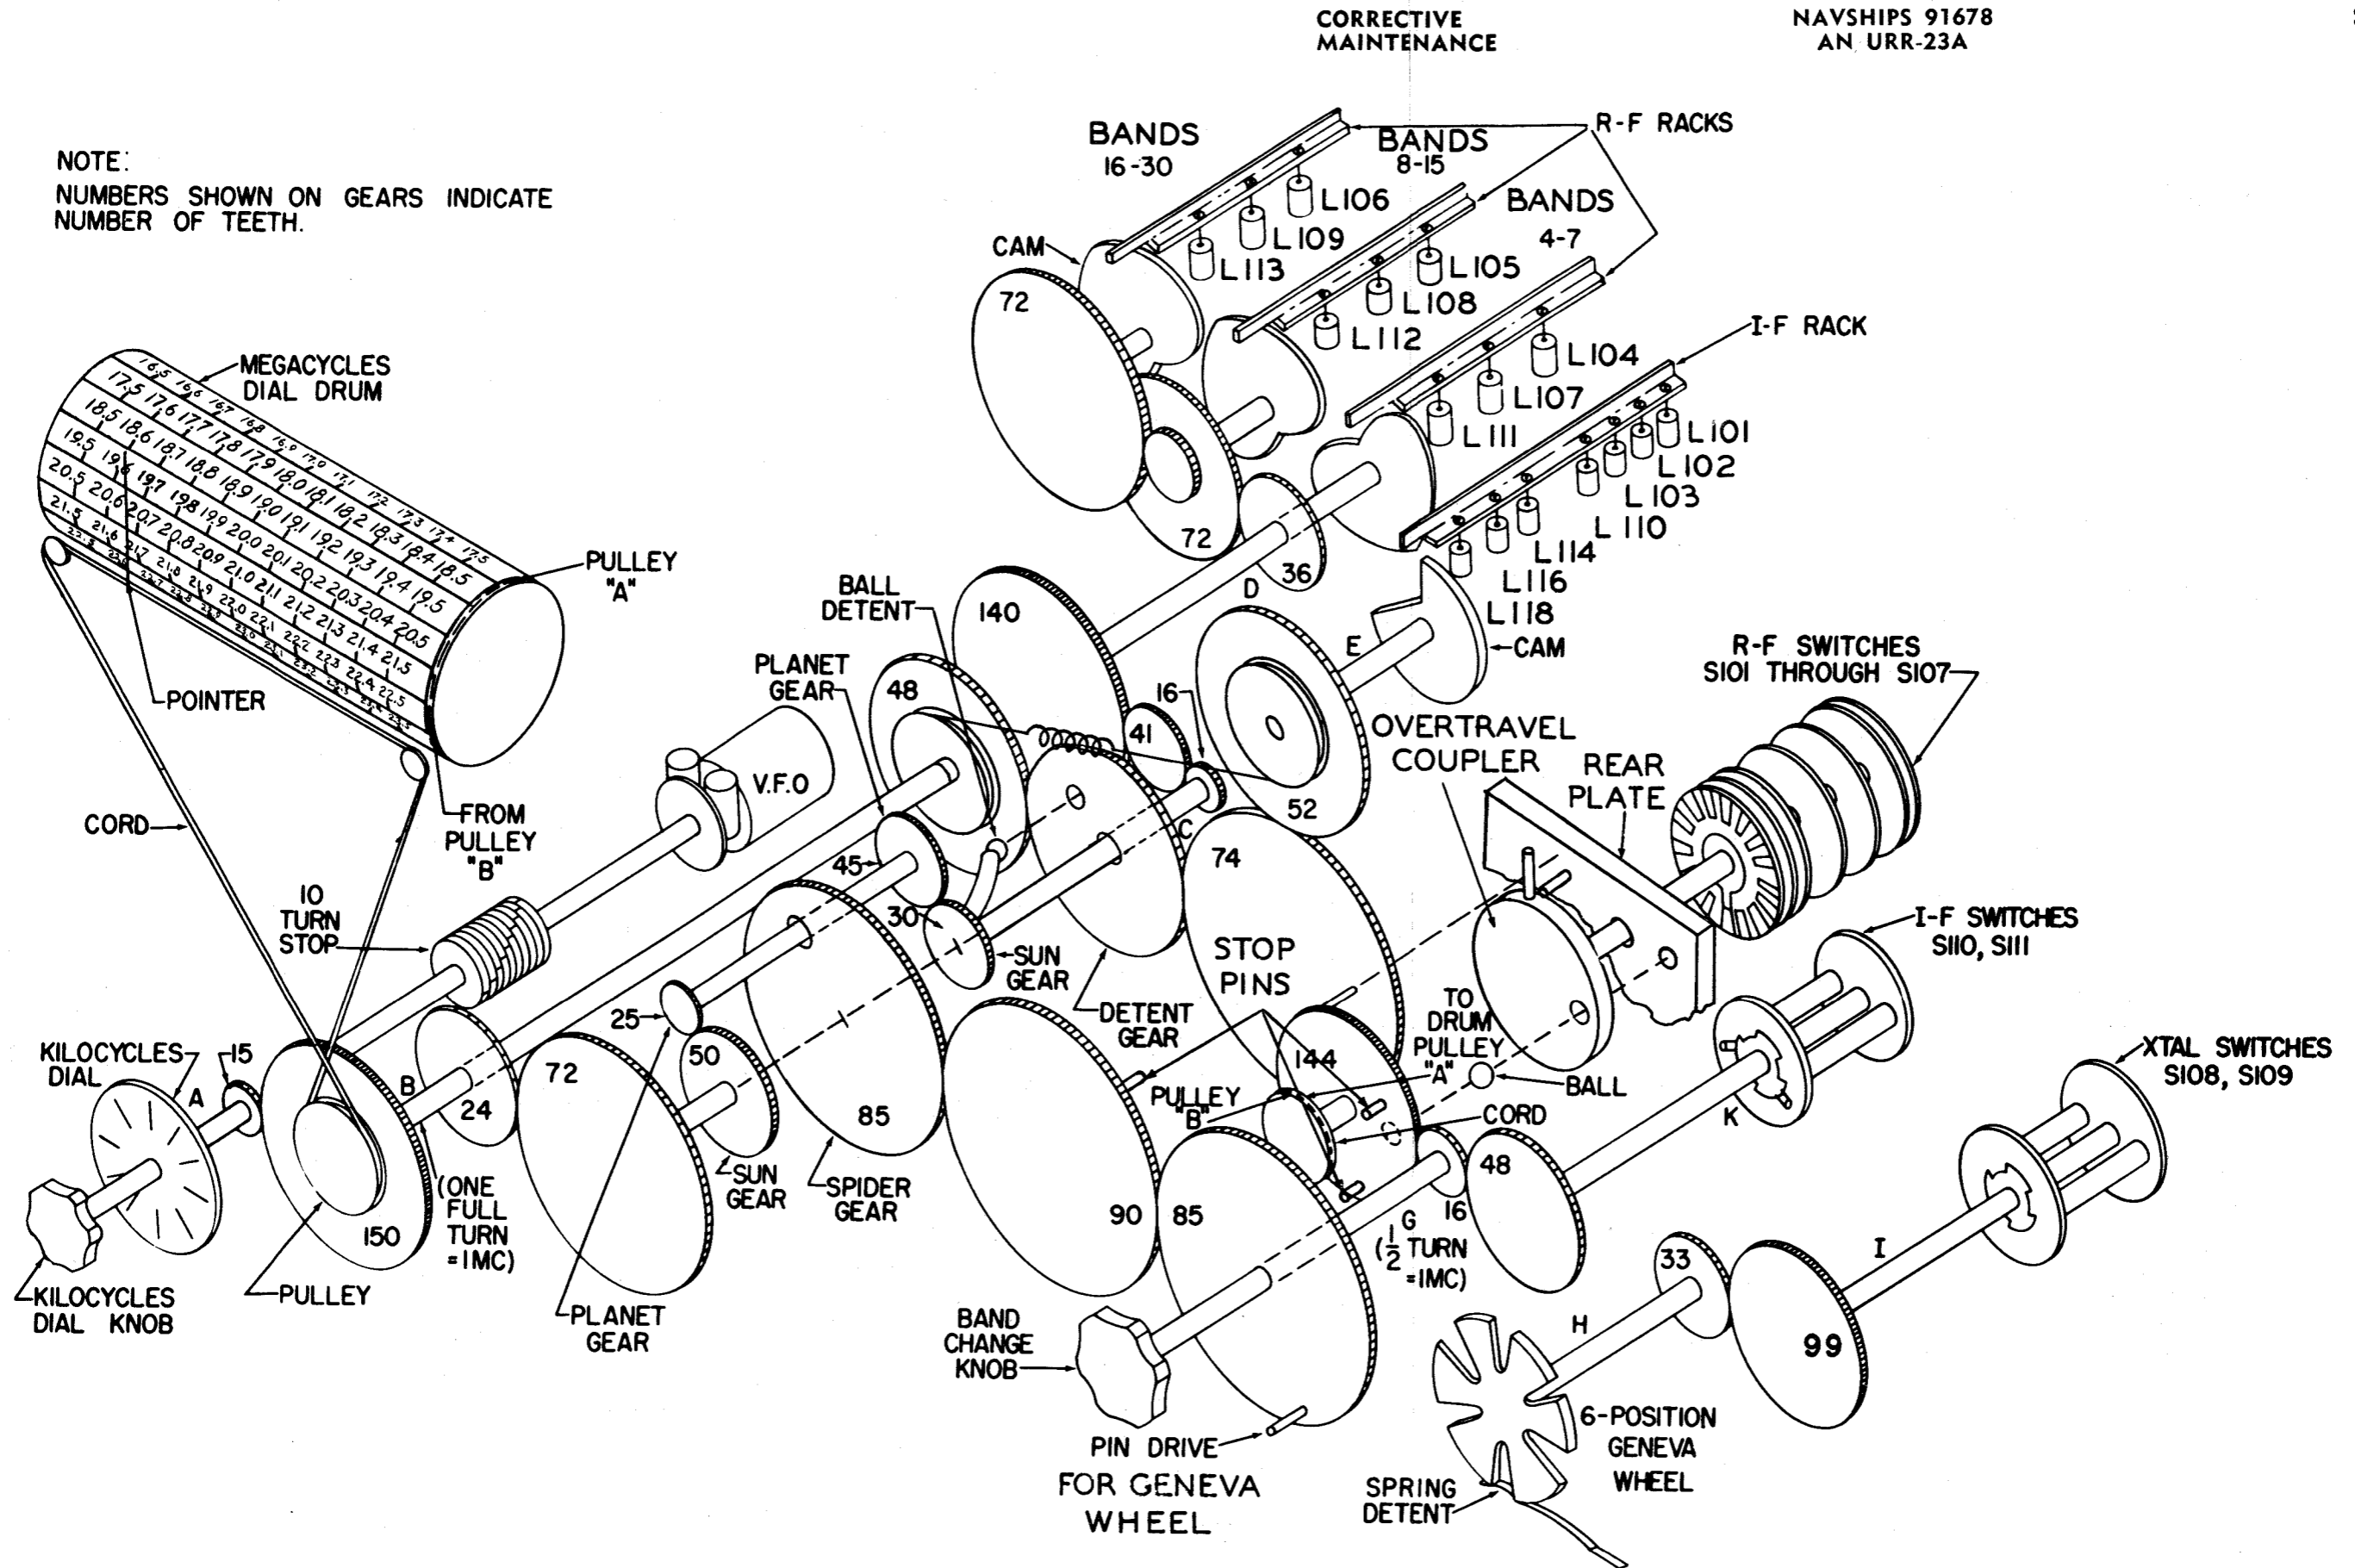

Figure 7-7. Mechanical Functional Diagram
(b) If repairs are to be made in the field, the gear box may either be removed from the receiver or left in, depending on the extent of repairs. If the box is to be removed, turn the MEGACYCLE knob to its clockwise stop and the KILOCYCLE knob to its counterclockwise stop, and follow the instructions in paragraph 6. a. (1)(a); then proceed according to the following steps. If the box is to be left in the receiver, perform steps 1 and 2 under paragraph 6. a. (1)(a); then proceed according to the following steps. Refer to figures 7-7 and 7-8 for location of gears and shafts.